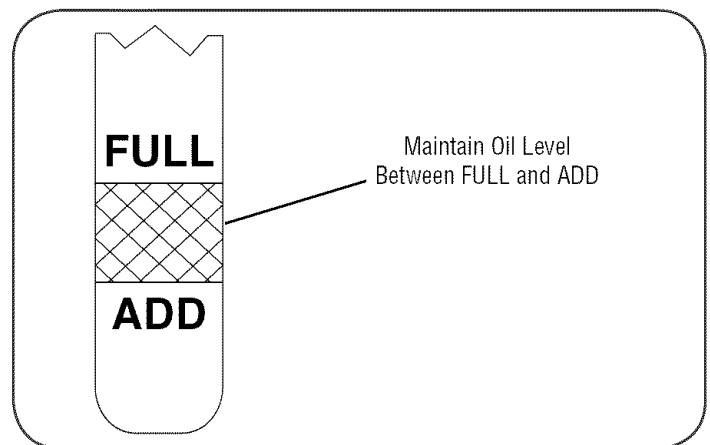

Figure 7
2. Unscrew oil fill cap from oil filler tube and wipe dipstick clean. See Figure 7.
4. Unscrew and remove oil fill cap from oil filler tube. Note oil level. If oil reading on dipstick is below "ADD" mark, slowly add oil to reach "FULL" level. See Figure 7.